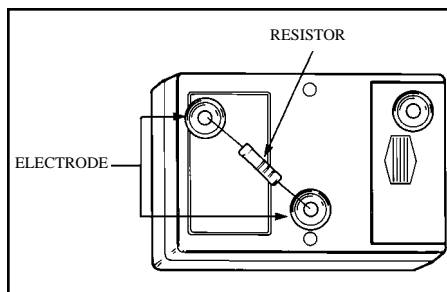

Figure 8. Calibration of the MiniMeg
A check on the function of the MiniMeg can be performed with the following procedure. You will need 1% resistors of the following values: 100K, 1M, 10M, 100M, 1G and 10G ohms. These precision resistors will be placed across the two electrodes on the bottom of the meter (see Figure 8).
B. Place the 10G ohm resistor across the middle electrode and the side electrode as illustrated in Figure 8. Press the test button. The second LED should light. Be sure not to contact the leads or the buttons as your body's resistance will affect the readings.